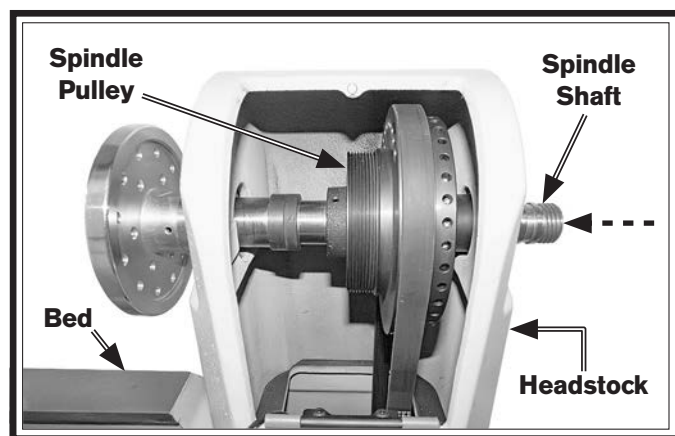

Figure 54. Spindle shaft components.
8. With help from an additional person, push spindle shaft through headstock towards bed (see **Figure 54**).